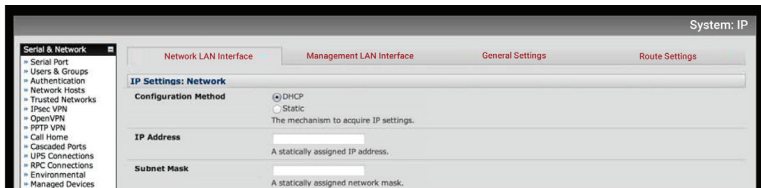

Figure 1. System: IP screen
- Select System: IP then Network Interface and check DHCP or Static for Configuration Method. See Figure 1 on the next page.